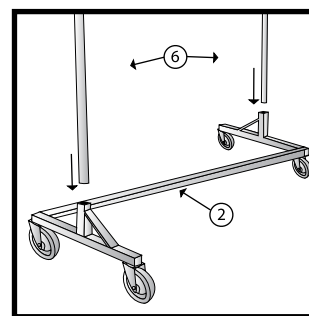

Figure 2
2. Insert upright bars (6) into frame (2). (Figure 2)